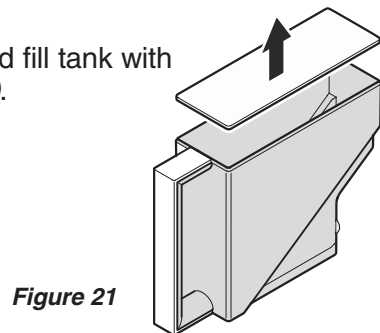

Figure 21
2. Remove cover and fill tank with water (**Figure 21**).